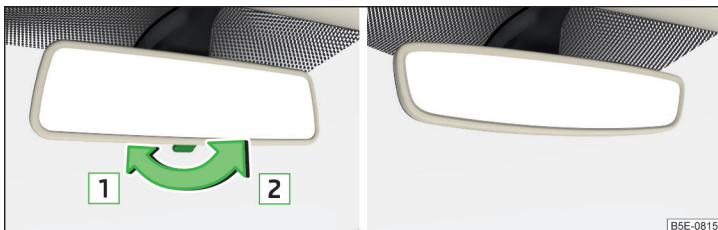

Fig. 82 Interior rear-view mirror: with manual dimming/auto-darkening
**Mirrors with manual dimming** » Fig. 82
The mirror dimming » Fig. 82 is automatically controlled after the engine start.